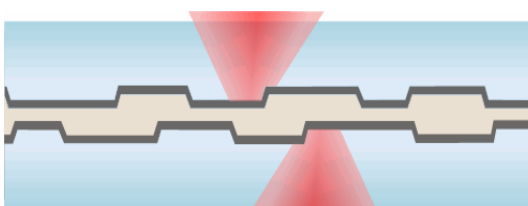

Figure 4 DVD-10 Disc
**DVD-10** discs (Figure 4) comprise two metallised substrates bonded together and read from both sides. The disc label is restricted to a small annular area within the disc hub, on both sides of the disc. These discs have been superseded by DVD-9 discs, which are read from one side.